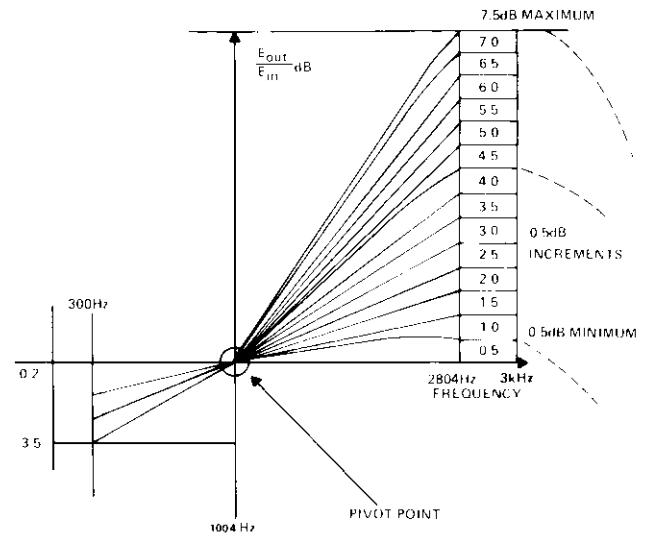

figure 6. Typical response curves for receive-channel active slope equalization
2.07 A prescription active slope-type amplitude equalizer in the 6047 and 6047A provides post-equalization of the facility-side receive pair. From 0 to 7.5dB of gain at 2804Hz (re 1004Hz) can be introduced into either module's receive path in switch-selectable 0.5dB increments to compensate for the frequency response of nonloaded cable. Typical flatness achievable with the module's receive equalizer is ± 0.3 dB from 400 to 3200Hz re 1004Hz. The module's equalized gain response is not affected by flat gain and loss adjustments, which are used to provide precise transmission alignment. Frequency response of the equalizer is shown graphically in figure 6 and in tabular form in table 1.